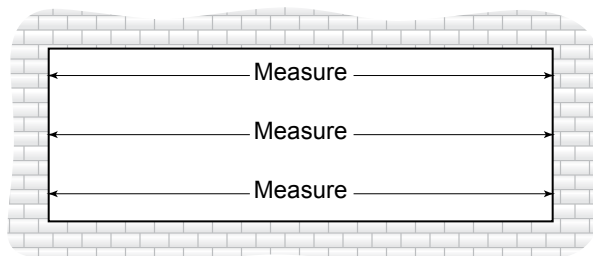

Fig. 24.2
- B. Measure the width of the opening (Rough Opening) at the top, middle and bottom. Select the smallest of these dimensions and subtract the left and right caulk joint width per approved shop drawing (1/2" minimum caulk joint at jambs). **SEE Fig. 24.2.**